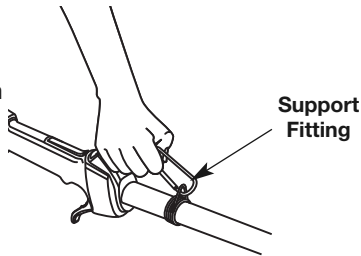

Fig. 4
- Attach the shoulder clip to the unit. (Fig. 4)